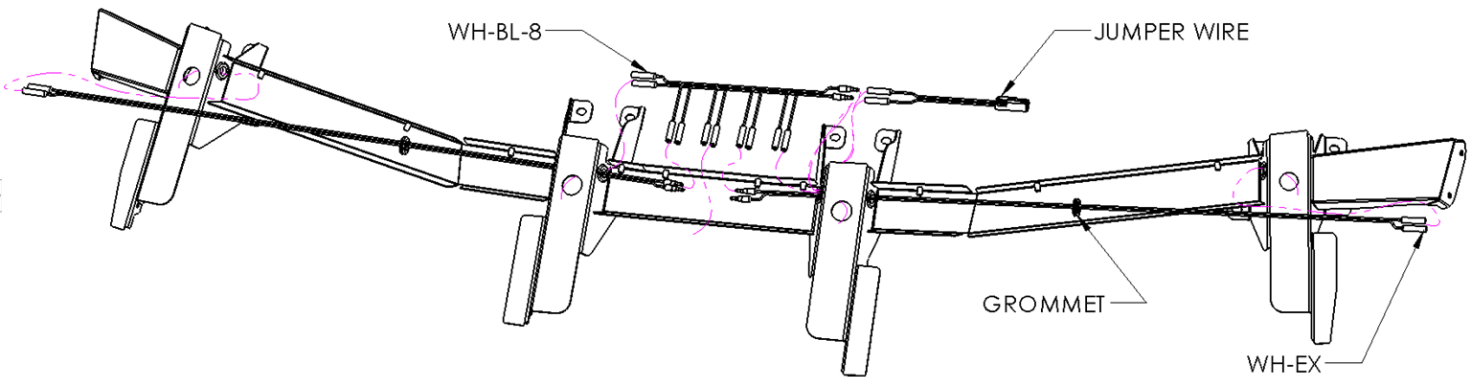

Figure 6
- d. Connect wire as shown (see figure 6 & 7)